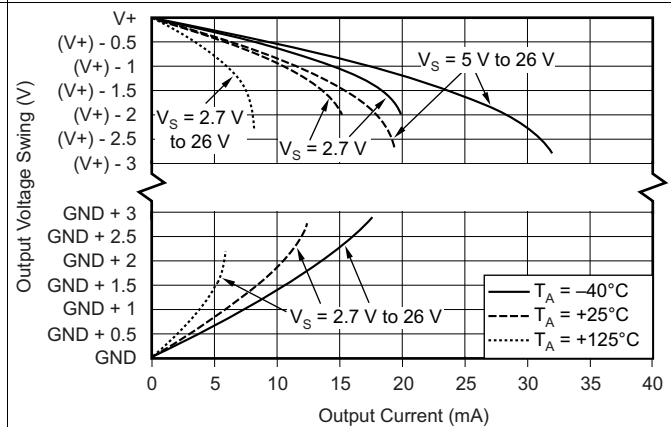

Figure 10. Output Voltage Swing vs Output Current
(3) See Figure 10 in the *Typical Characteristics* section.